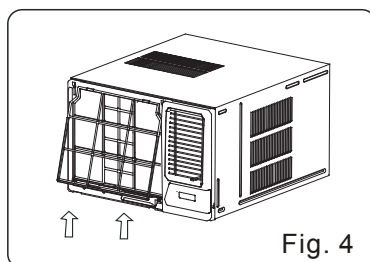

Fig. 4
2. Pinch the handle under the air filter and make the air filter arched, remove it from the slot from underside to upside (See Fig.4).
1. Install the air filter into the frame's slot from upside to underside (See Fig.4).